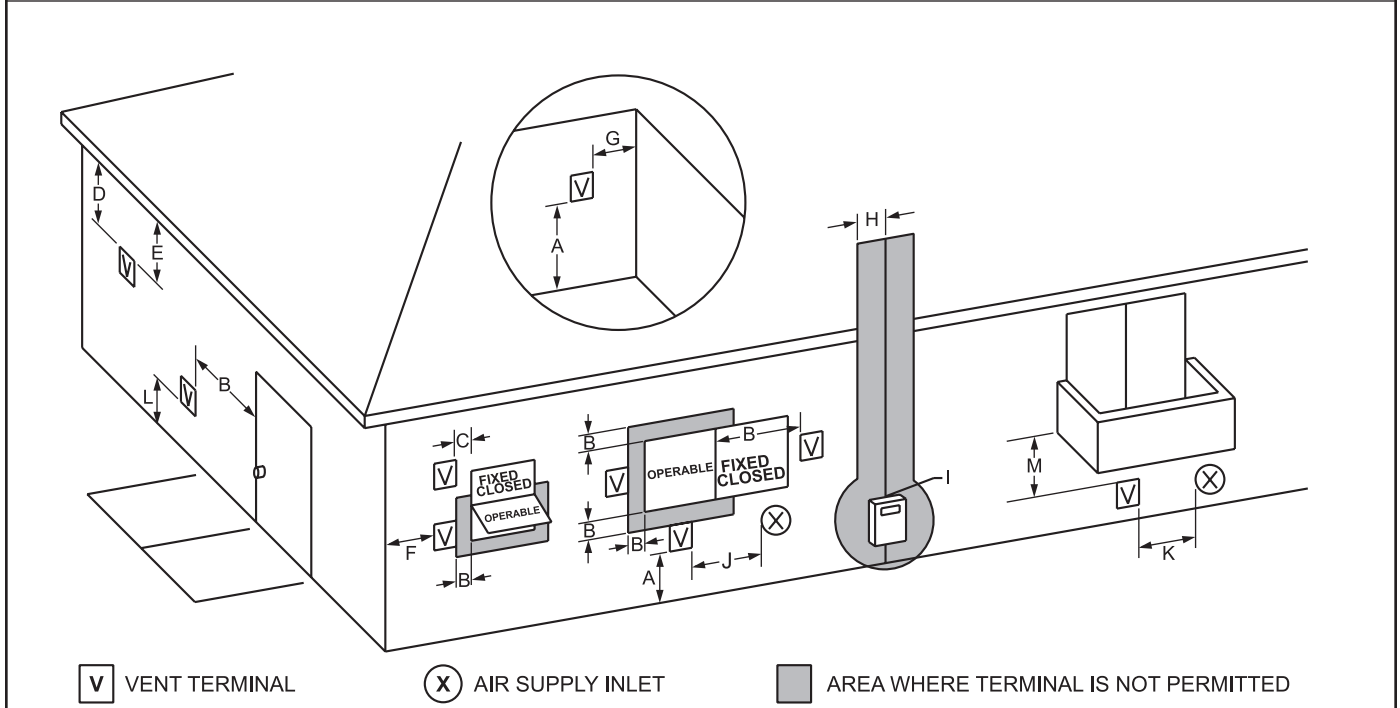

Figure 4. Combustion Air and Vent Through Side Wall.
1. **Figure 4** shows the requirements for mechanical vent terminal clearances for the U.S. and Canada.
4. If this unit is side-wall vented to the same wall, locate the vent terminal at least 3 feet (0.9m) horizontally from the combustion air terminal, and locate the vent terminal at least 1 foot (0.3m) above the combustion air terminal (see **Figure 4**).